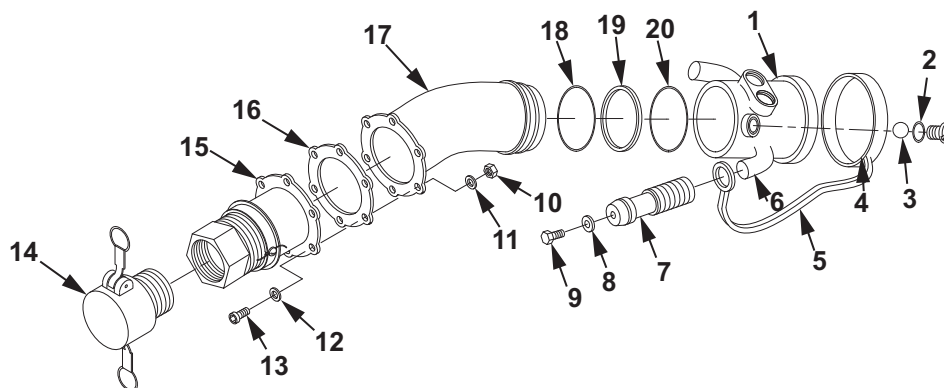

Figure 1. D1 Nozzle Disassembly.
10. Discard O-ring (Figure 1, Item 20).
11. Remove seal (Figure 1, Item 19) and wear ring (Figure 1, Item 18) from inlet elbow (Figure 1, Item 17).
12. Discard seal (Figure 1, Item 19).
13. Using a torque wrench and screwdriver bit, check running torque on screw (Figure 1, Item 9). If running torque is less than 6.5 in. lb (0.73 N•m), discard screw (Figure 1, Item 9).
14. Remove screw (Figure 1, Item 9) and washer (Figure 1, Item 8) from grip handle (Figure 1, Item 7).
15. Remove grip handle (Figure 1, Item 7) from fuel nozzle handle (Figure 1, Item 9).
16. Remove dust cap (Figure 1, Item 5) from fuel nozzle handle (Figure 1, Item 9).
17. Using pipe wrench, remove quick disconnect coupling half adapter (Figure 1, Item 15) by turning the quick disconnect coupling half (Figure 1, Item 14) counterclockwise.
2. Inspect quick disconnect coupling half adapter (Figure 1, Item 15) for leakage or damage. If leakage or damage is found, replace quick disconnect coupling half adapter (Figure 1, Item 15) or disconnect coupling half (Figure 1, Item 14).